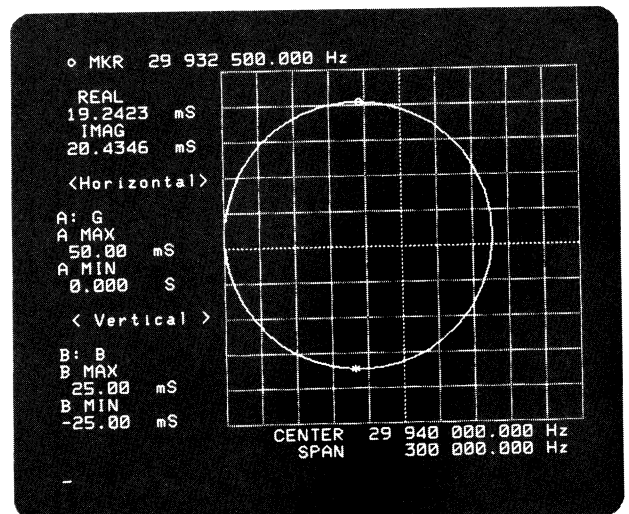

Figure 20. Circle Diagram of Resonator Admittance
- return → RECTAN A-B (See Figure 20.)